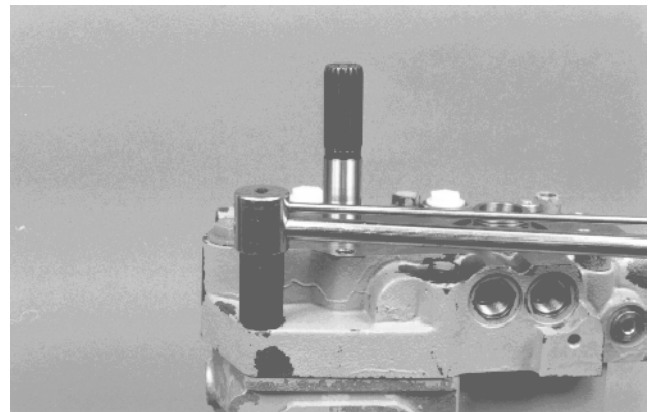

Figure 76
21. Install six (6) screws that retain the center section to the housing and torque evenly to 33 to 41 ft-lb (45 to 56 N-m) (Fig. 76).